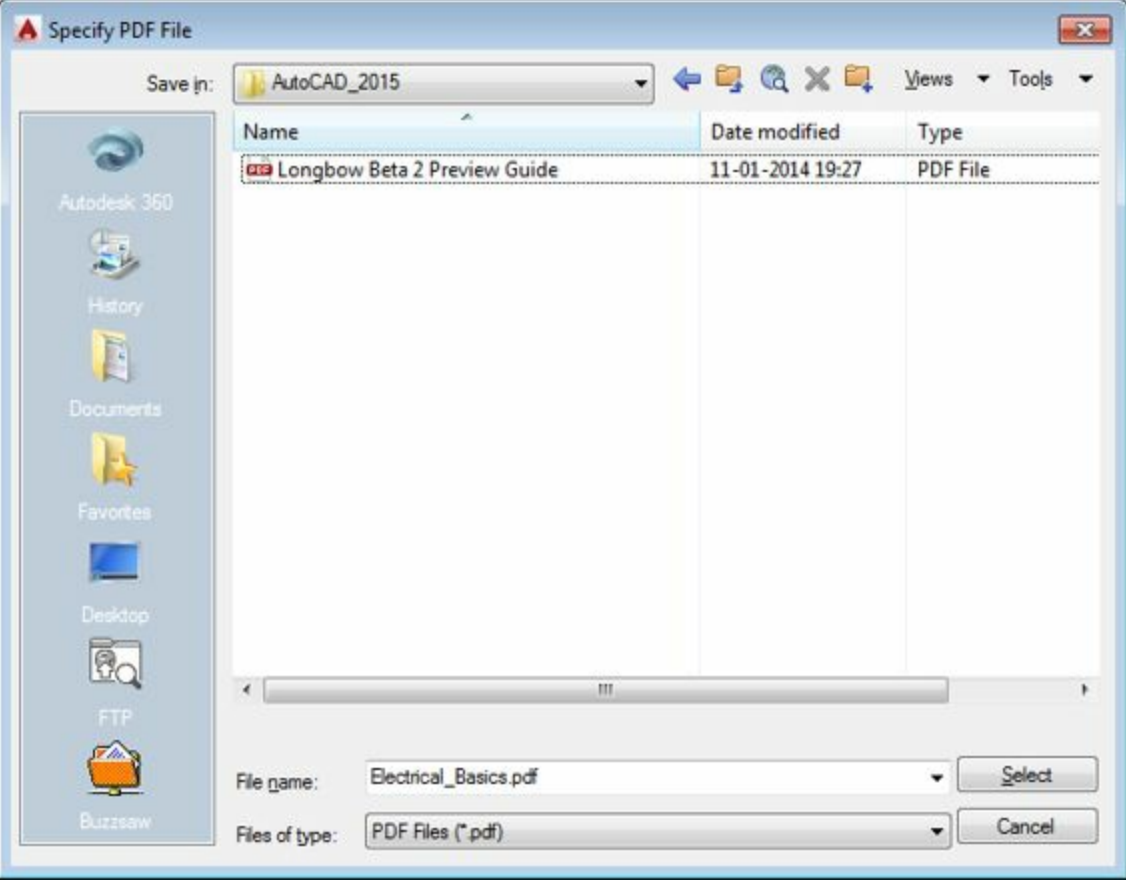

Figure-39. Specify PDF File dialog box
- Set the desired options and then click on the **Publish** button from the dialog box. The **Specify PDF File** dialog box will be displayed (in case of PDF format selected); refer to Figure-39.